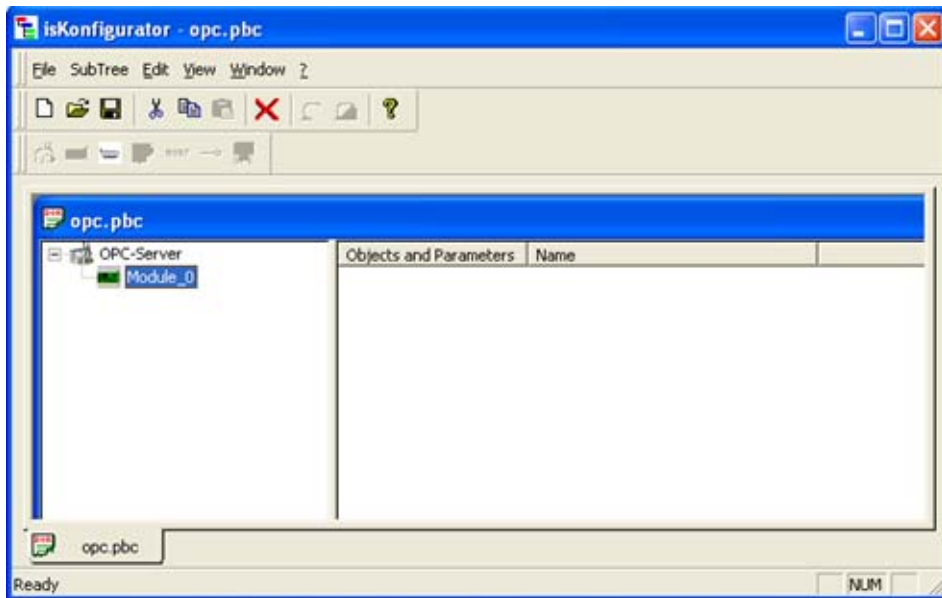

Figure 32. is Pro Multiserver New Object
4. Enter the object name as Module_0 and click **OK**. The object is added below the OPC-Server on the left pane as shown in the Figure 32.